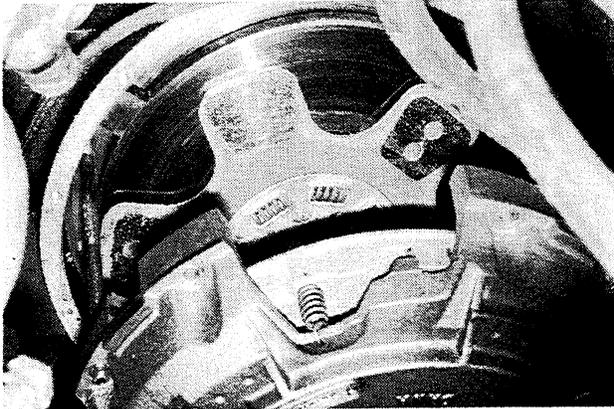

Figure 5:
2. When all bolts have been removed, slide clutch assembly back and off using caution to keep aligning tool in place to retain discs and intermediate plate. (see Fig. 5 & 5A).